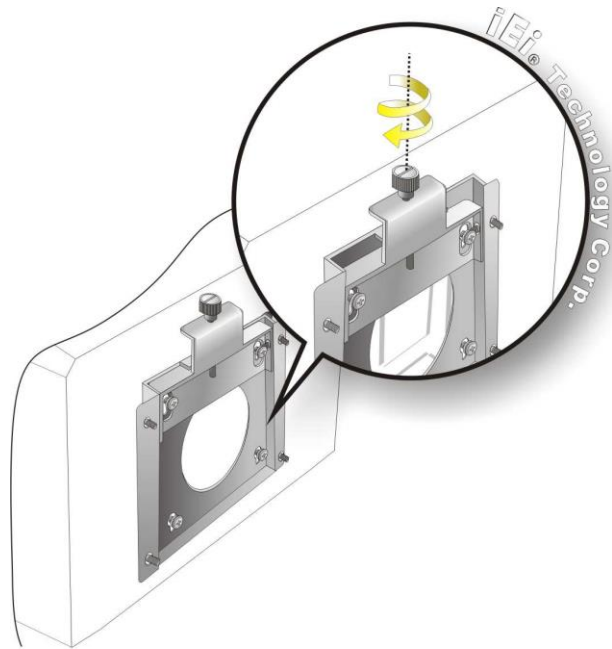

Figure 3-8: Secure the Panel PC
Step 9: Secure the panel PC by fastening the retention screw of the wall-mounting bracket. (**Figure 3-8**).